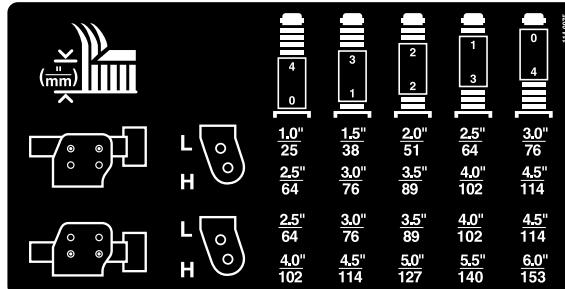

Figure 28
- Position the castor wheel axles in the same holes in all castor forks. Refer to the chart (Figure 28) to determine the correct holes for the height of cut setting.
- Spacers (4)